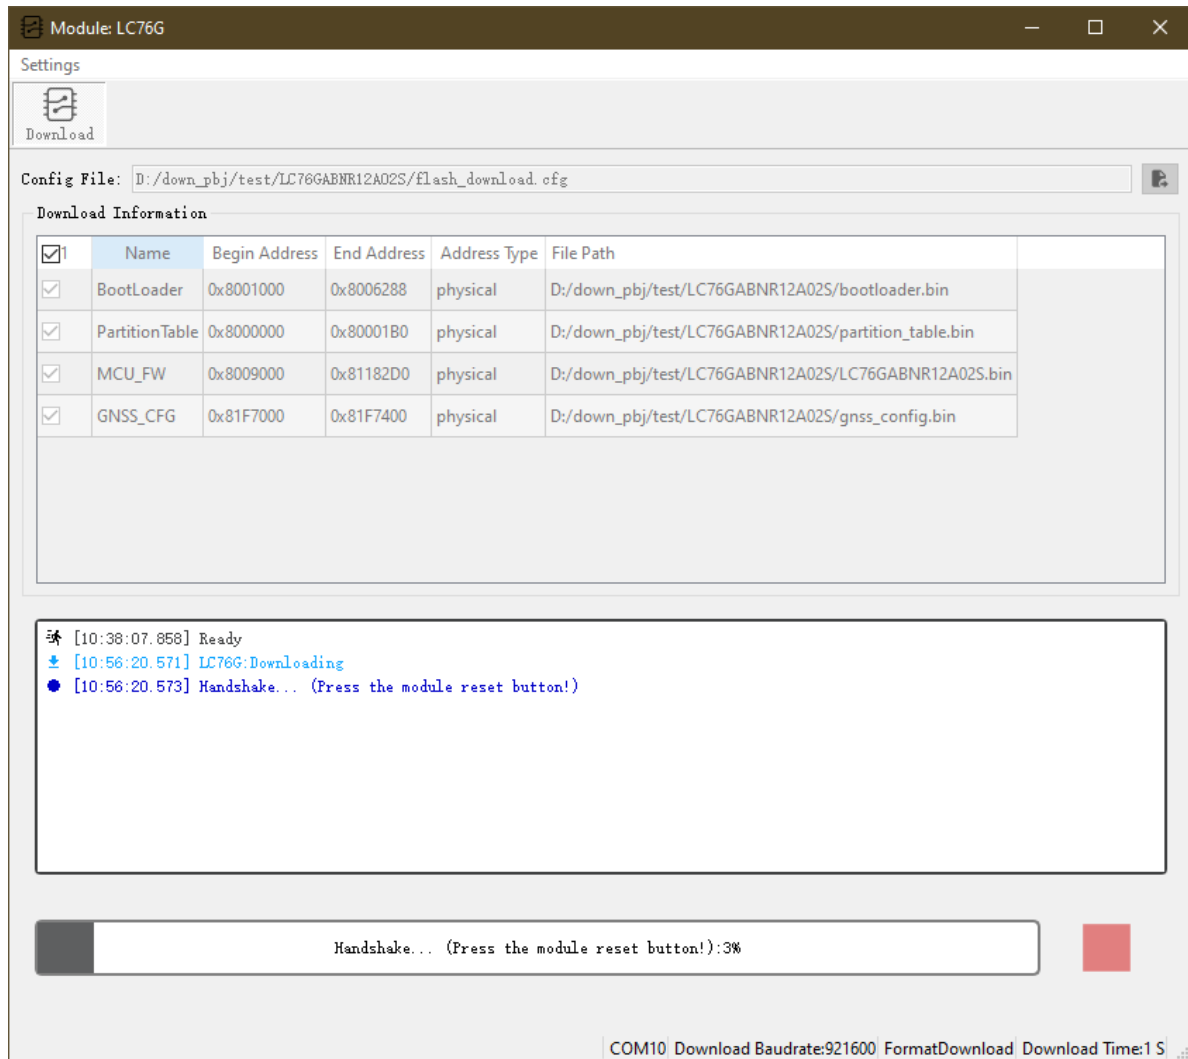

Figure 19: Wait for Handshake
Step 10: Click  to initiate the firmware upgrade process and wait for handshake between the module and the PC as shown in Figure 19: Wait for Handshake. Reset module within 20 s. Otherwise, the firmware upgrade will fail. In this case, you can retry from **Step 10**.